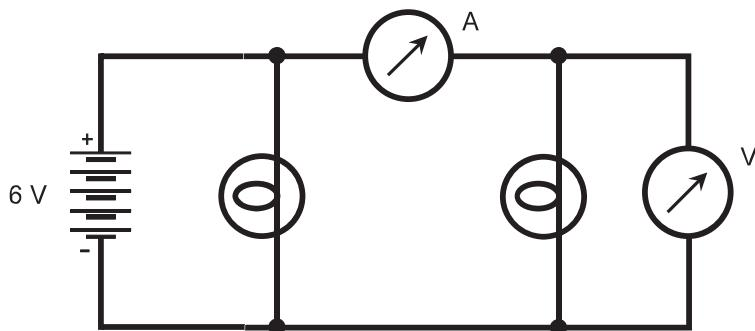

Fig. 4-18. Illustration for Quiz Questions 1 through 5.
1. Refer to Fig. 4-18. The battery supplies 6 V. Suppose each of the lamps in the circuit has a resistance of 120Ω . What is the resistance of the two lamps together, connected in parallel?
2. Refer to Fig. 4-18. The battery supplies 6 V. Suppose each of the lamps in the circuit has a resistance of 120Ω . What is the ammeter reading?
3. Refer to Fig. 4-18. The battery supplies 6 V. Suppose each of the lamps in the circuit has a resistance of 120Ω . What is the current drawn from the battery?
4. Refer to Fig. 4-18. The battery supplies 6 V. Suppose each of the lamps in the circuit has a resistance of 120Ω . What is the voltmeter reading?
5. Refer to Fig. 4-18. The battery supplies 6 V. Suppose each of the lamps in the circuit has a resistance of $120\ \Omega$. If the left-hand bulb blows out, leaving an open circuit in its place, what will happen to the ammeter reading?